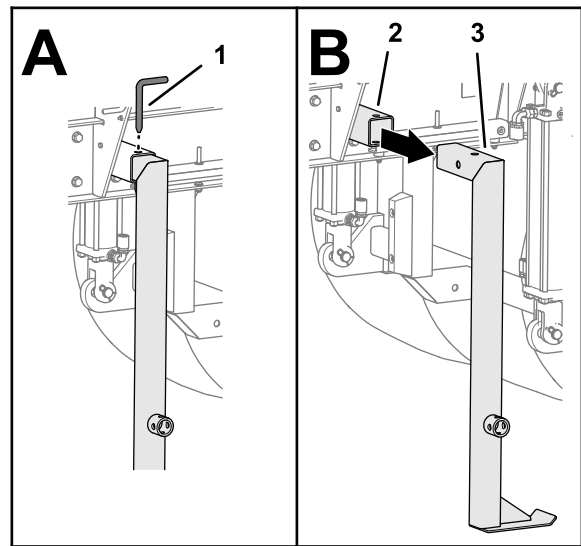

Figure 25
4. Remove the jack-leg pin from the rear-jack leg, and remove the jack leg from the leg tube (Figure 25).